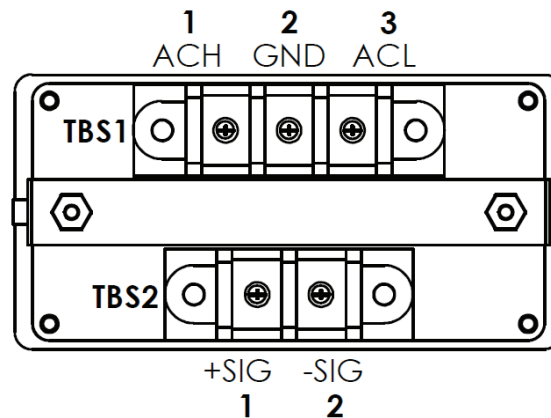

Figure 21: SPMC009 connection diagram
7.1.3 The unit under test (UUT) shall be connected to the test circuit as shown in **Figure 21** below.
- 7.4.3 The unit under test (UUT) shall be connected to the test circuit as shown in **Figure 21** above.